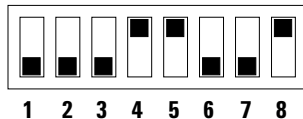

Figure 3 Configuration Switch Module
- 1 Identify the spectrophotometer's configuration switch module, see Figure 3. For GPIB operation the default address is 25, that is, all switches are in the down position except for the switches 4, 5 and 8 which are in up the position, resulting in a pattern 00011001 (where 0 means down and 1 means up). No two instruments or accessories may share the same GPIB address. For alternate switch settings, see Chapter 6, "GPIB Communication, Connections and Configuration".